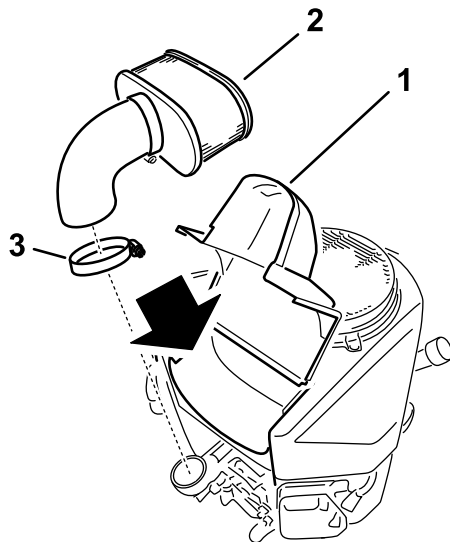

Figure 34
4. Loosen the hose clamp and remove the paper element (Figure 34).